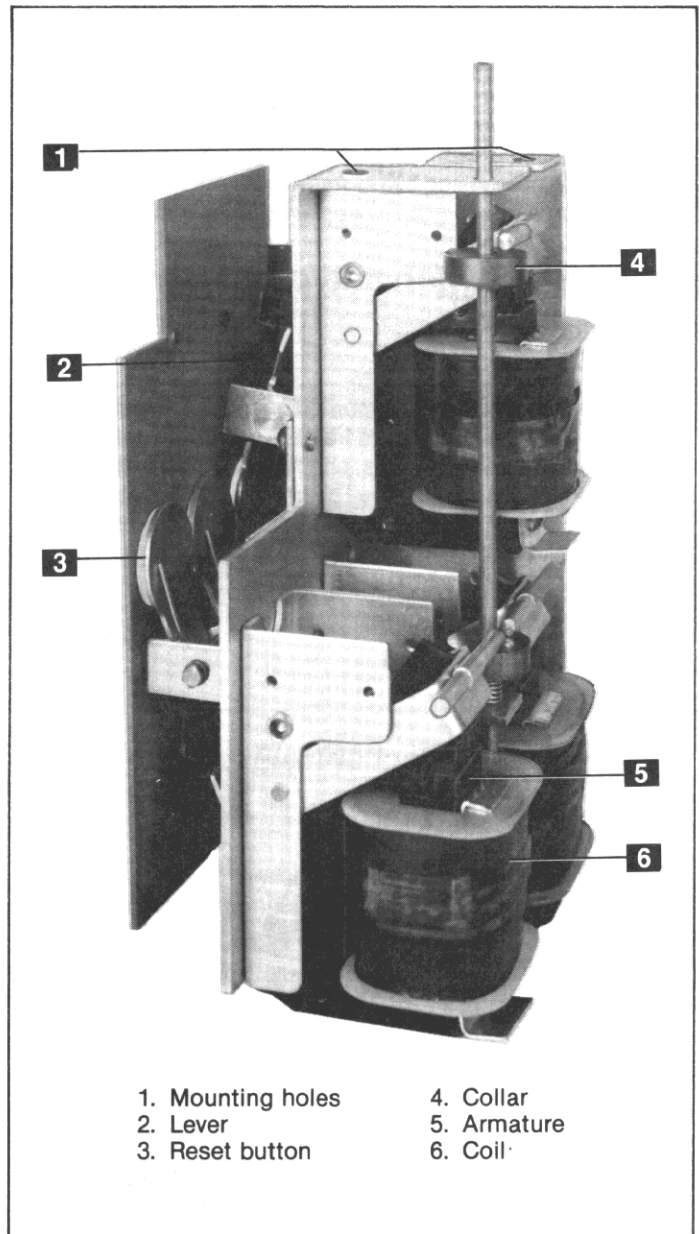

Fig. 16. Open fuse lockout device
Open Fuse Lockout Device (OFLO) (Fig. 16)
When any one of the breaker fuses blow, the coil (6), Fig. 16, in that phase is energized and the armature (5) closes. With the armature closed, lever (2) slips under the armature and latches it in the closed position. The latched closed armature holds the breaker in the trip-free position until it is released by pushing the associated reset button (3). The coil is de-energized as soon as the breaker opens.